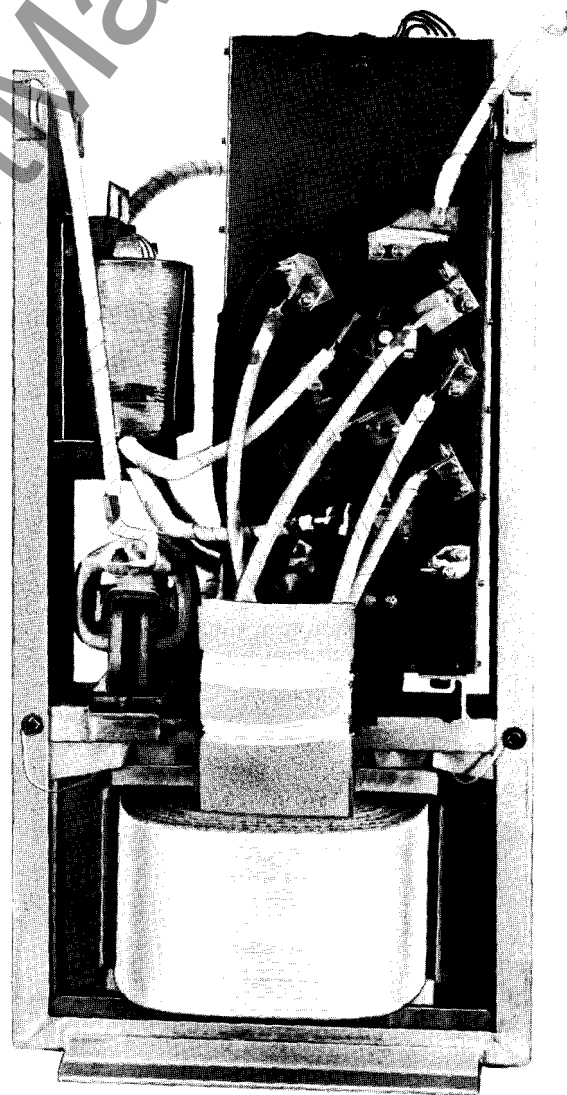

Fig. 17 - VRL Internal Assembly removed from tank
7. The complete core and coil assembly including the tap changer can now be lifted out of the tank. After removal from the tank, the coils should be kept dry and clean. See Figure 17.